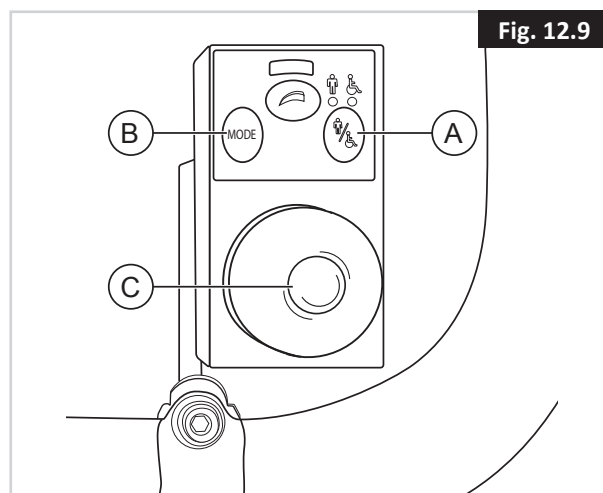

Fig. 12.9
2. To activate the attendant steering the user/attendant switch needs to be pressed (A in Fig. 12.9)
3. Press on the 'mode' button (B) to select the 'adjustment options' mode. The controller will now be in the 'adjustment options' mode. It is possible to follow the status on the display screen.